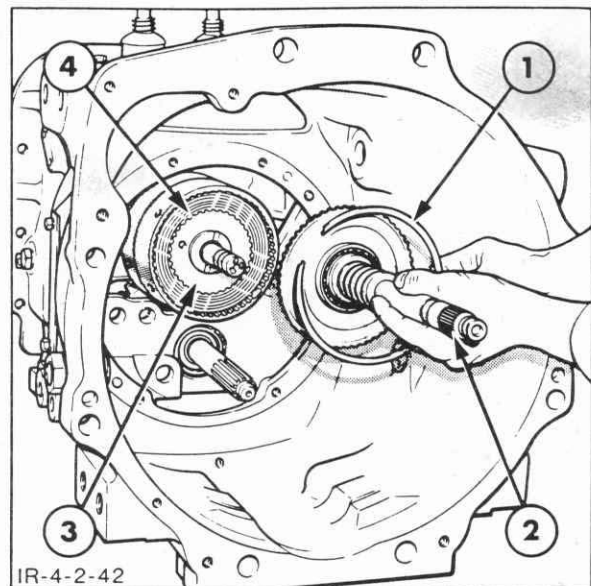

Figure 4-135
1. Remove the front input shaft and bearing assembly from the clutch housing by removing the snap ring, Figure 4-135.
2. Pull the forward clutch hub, along with the thrust washer, from the rear input shaft, Figure 4-135, then remove the forward clutch plates.
4. Place the clutch hub and thrust washer, Figure 4-135, on the rear input shaft, then install the ten clutch plates, one by one, starting with a steel plate then a bronze plate.
5. Coat the sealing rings on the front of the rear input shaft with petroleum jelly to hold them in position. Then, carefully install the front input shaft, Figure 4-135. Secure the shaft to the clutch housing with the snap ring.
IMPORTANT: Do not force the front input shaft over the rear input shaft, Figure 4-135. If difficulty is encountered, one of the sealing rings could have dropped out of position. If necessary, remove the front input shaft and reposition the sealing rings.